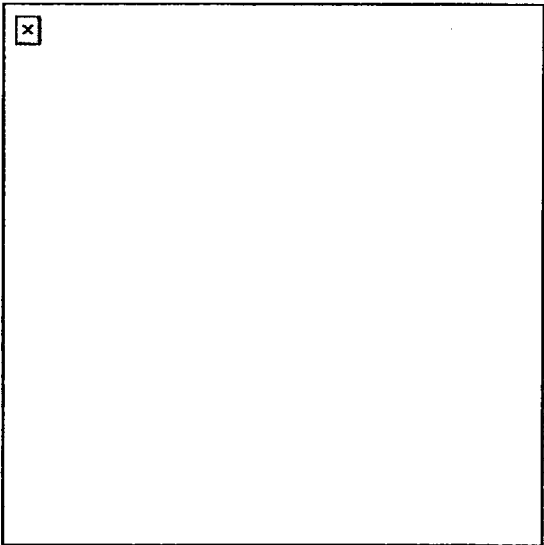

Figure 4. Zero aiming point.
- a. The rifle aiming point for ranges out to 250 meters is the center of the three straight lines (zero aiming point) (Figure 4). The top of the vertical line is the aiming point for 400 meters, and the bottom of the line is the aiming point for 600 meters.